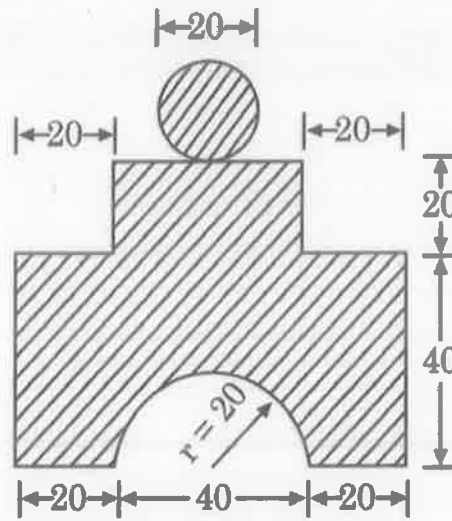

Fig 13
- (b) Determine the centroid of the built-up section shown in Fig. 13 and find the moment of inertia and radius of gyration about the horizontal centroidal axis.